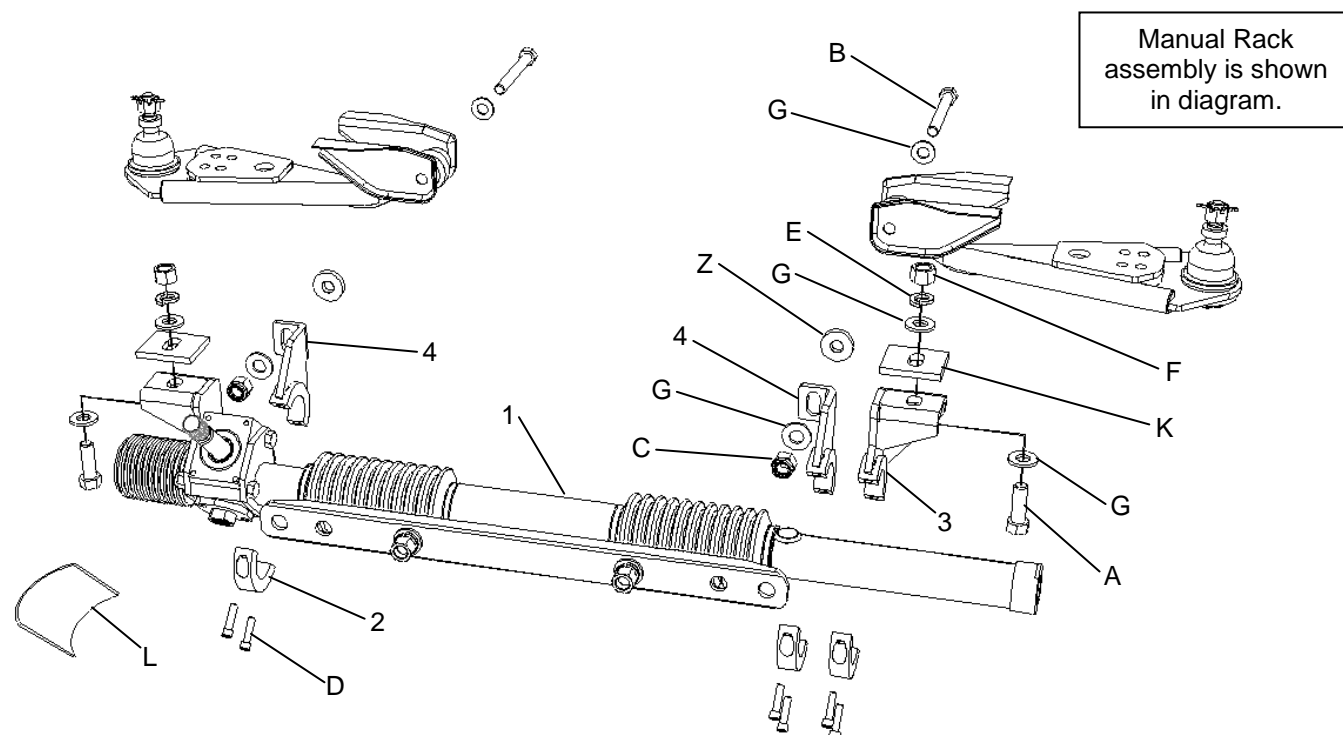

Figure 1-1
14. Bolt both lower rack brackets (Item 4) to lower control arm mounts in orientation shown in Figure 1-1.